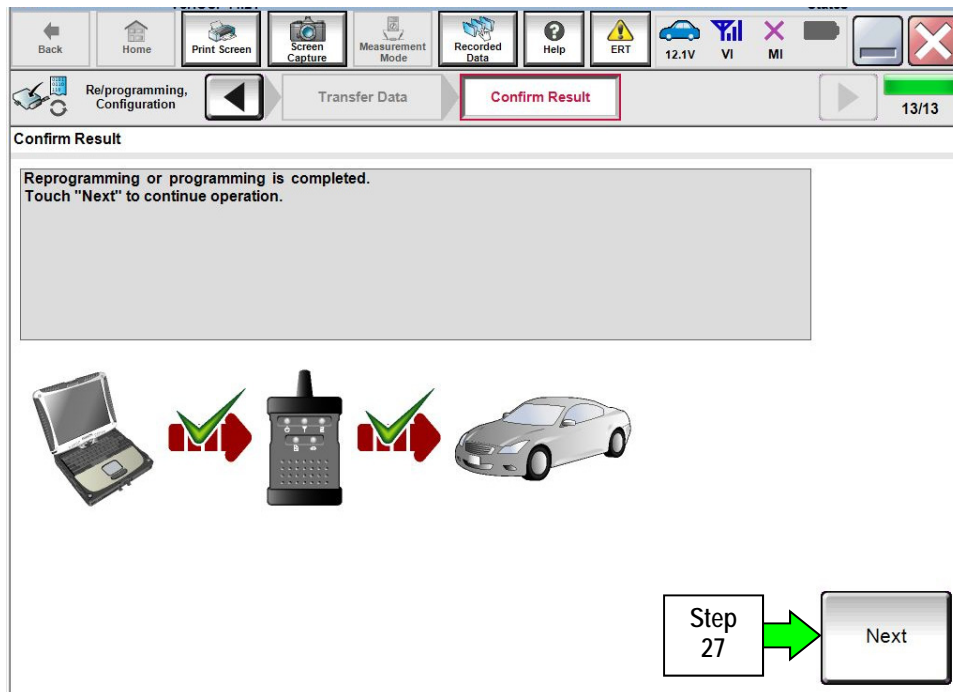

Figure 17
25. When the screen in Figure 17 displays, TCU reprogramming is complete.
NOTE: If the screen in Figure 17 does not display (indicating that reprogramming did not complete), refer to the information on the next page.